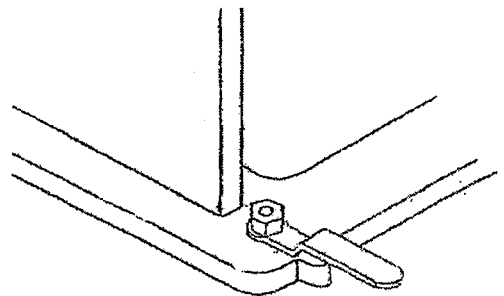

Fig 2
4. Turn the red handle at the front of the unit to forward facing (see Fig2).